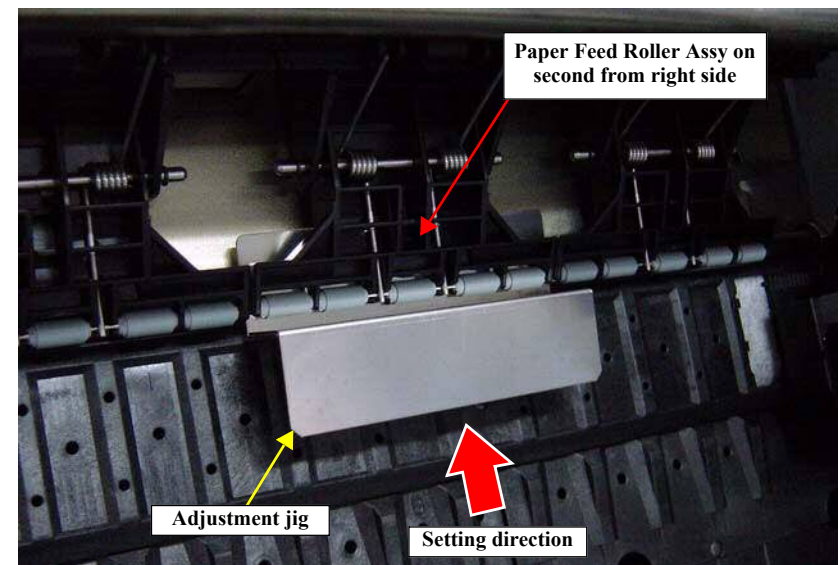

Figure 5-70. Position for the thickness tool (0.5 in thickness)
- Insert the adjustment jig (0.5) from the paper insertion opening, and set it to the position shown in Figure 5-70, then press the [Paper Set] button.